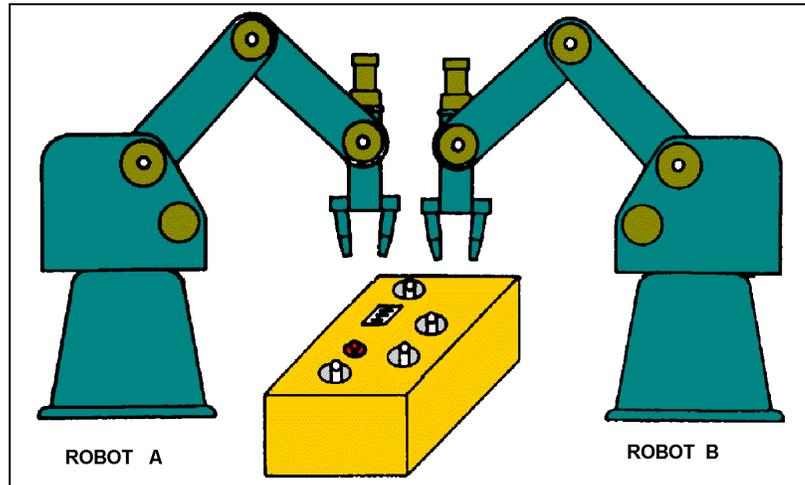

Figure 7-8
- Q** Describe an application in which two robots are synchronized by means of inputs and outputs. Use Figure 7-8 to help you with your answer.